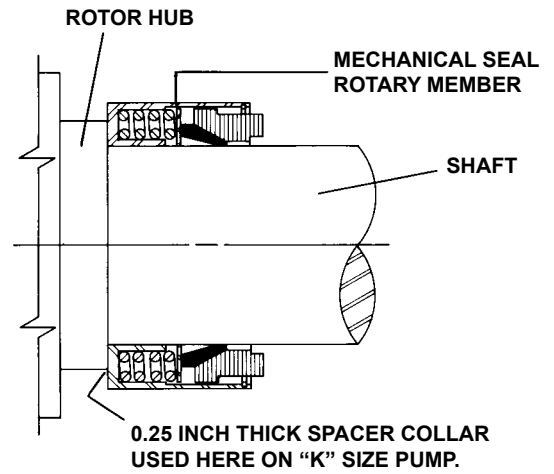

FIGURE 14
6. Place the tapered installation sleeve (furnished with H, HL, K, KK, L, LQ and LL size replacement mechanical seals) on the shaft. Refer to Figure 13. Coat the inner diameter of the seal rotary member, tapered installation sleeve and the shaft with a generous quantity of non-detergent SAE 30 weight oil. Place the rotary member on the shaft over the sleeve and against the hub of the rotor. Refer to Figure 14.